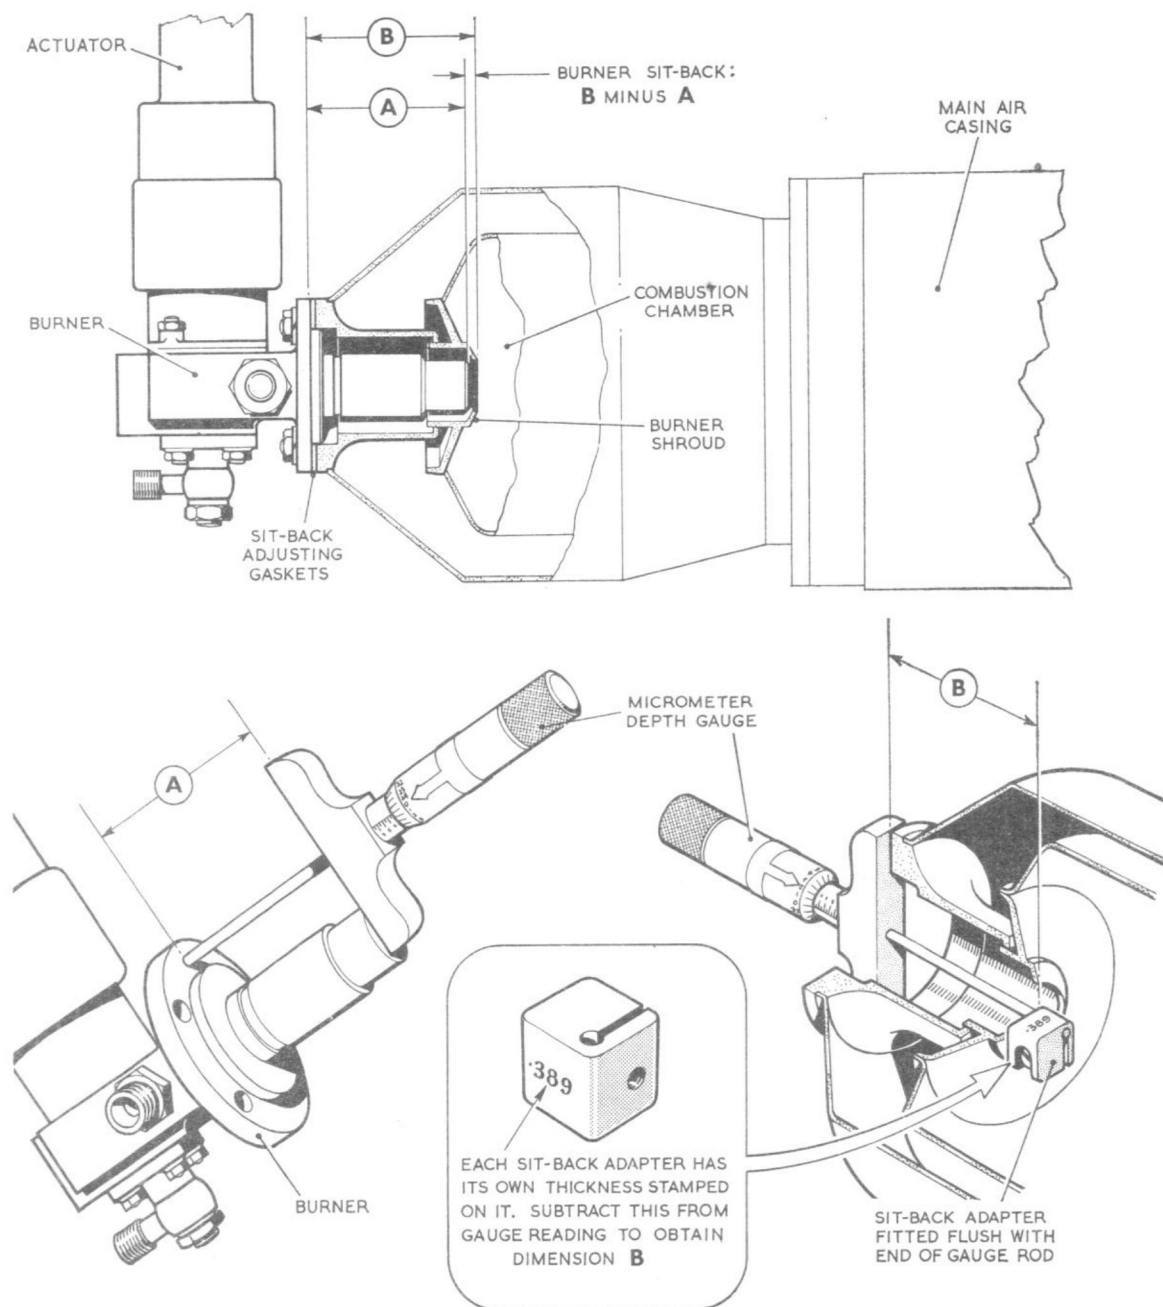

Fig. 3. Burner sit-back adjustment
Burner sit-back (fig.3)
14. (1) Using a suitable micrometer depth gauge measure and record the length of the burner barrel between the end face of the air shroud and the burner mounting flange (dimension "A" in fig.3).
(3) Insert the micrometer extension rod complete with the sit-back adapter into the combustion chamber, and hook the adapter over the burner shroud in the flame tube.
(4) Rotate the micrometer sleeve until the measuring face is pulled tight against the burner mounting flange, and then read off the distance recorded (dimension "B" in fig. 3).